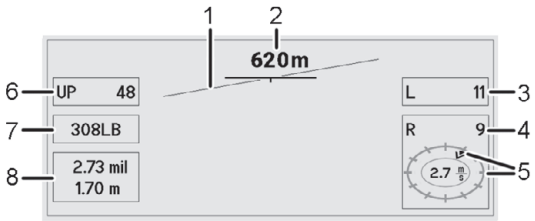

Abb. 3
Any references in the text to figures and item numbers in the images are indicated in parentheses. Example: (3/4) means fig. 3, item 4.
3. If necessary, correct the wind direction with the buttons "to the right / to the left". To do this, press the buttons until the wind direction arrow (example Fig. 3: wind is coming from the "1 o'clock" direction) shows the correct wind direction.
7. To go back to the first menu (Fig. 3): press the On/Off button (3/1) again briefly.